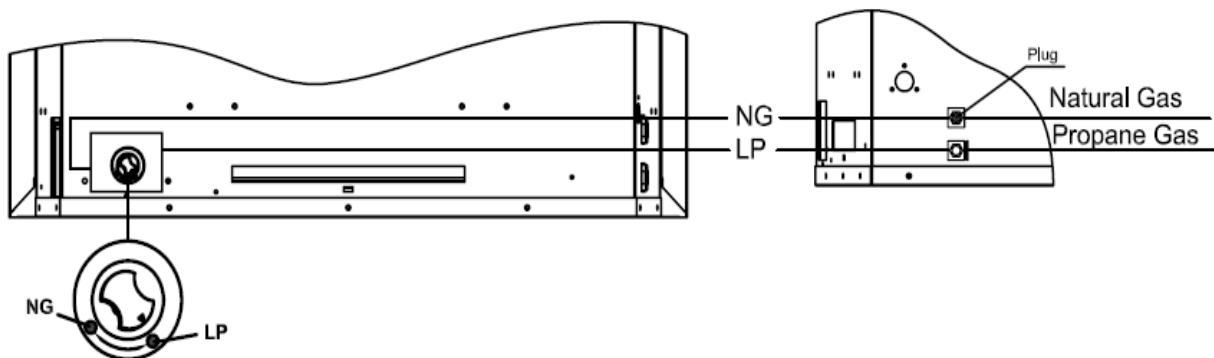

Figure 10
2. For PROPANE GAS, press in knob using a flat screw driver with a blade width of a quarter and turn knob counterclockwise  until the knob locks into the LP position (see Figure 10). Selection valve must be locked into either the LP position or the NG position.